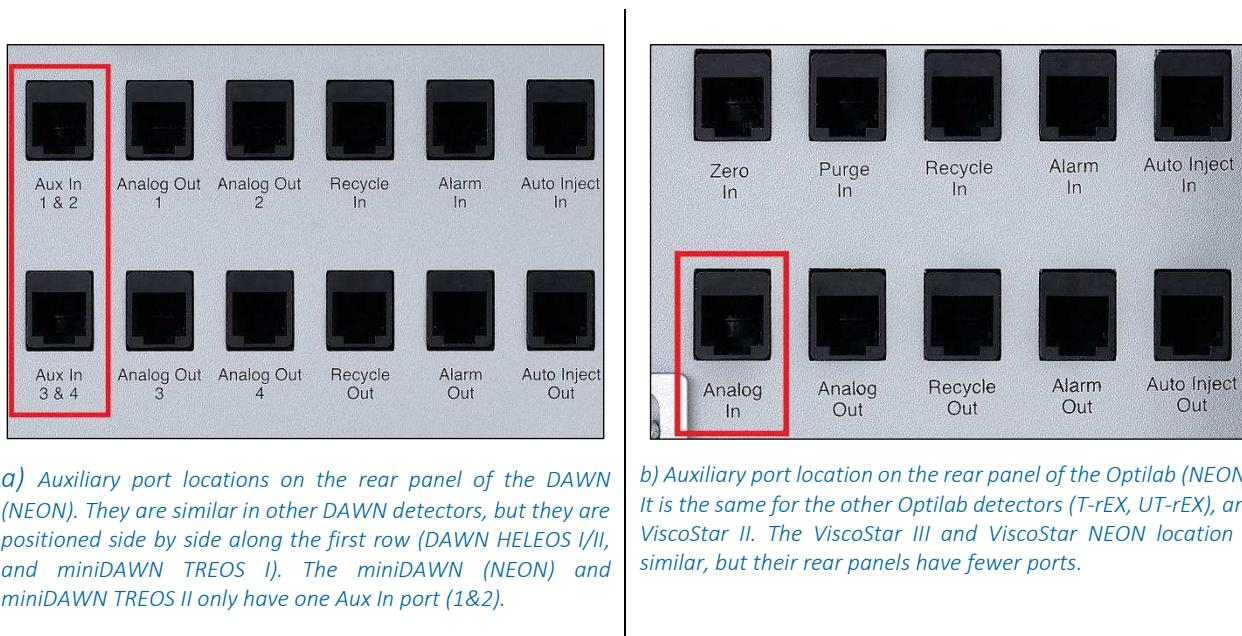

Figure 143. Auxiliary channel inputs on the rear panel of the Wyatt Technology instruments.
5. Plug the RJ-12 end of the cable to the correct port on your Wyatt instrument as shown in Figure 143.